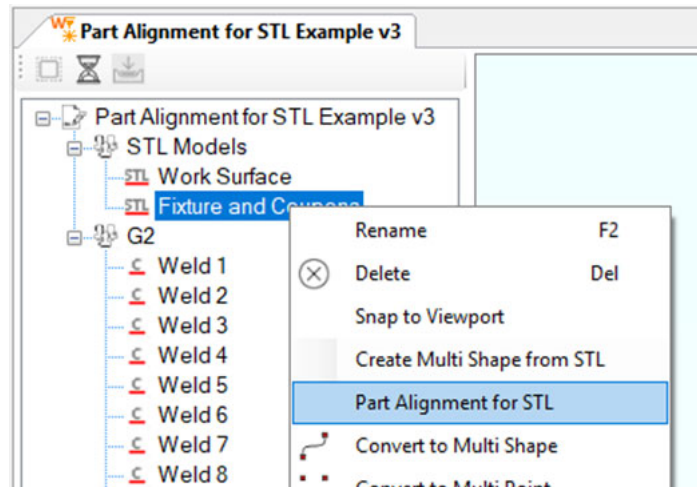

Figure 282: Part Alignment for STL
6. Right click the STL name of the model to be calibrated in the Job Tree. Click on "Part Alignment for STL" as seen in Figure 282 (below). This will open the STL Alignment Window.